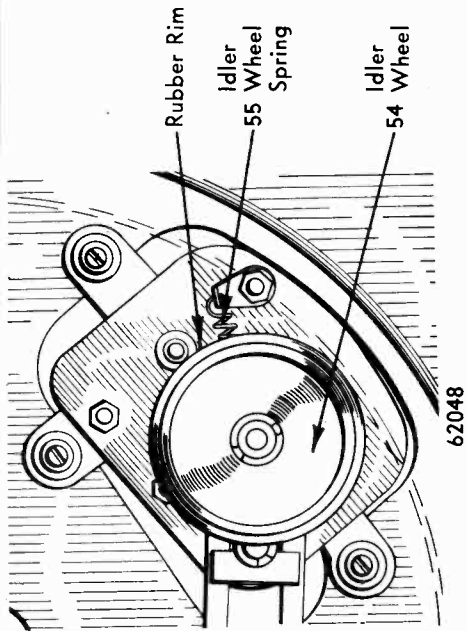

FIG. 27.
2. During playing cycle idler wheel slide should move freely and its spring tension must be positive so that idler wheel maintains constant contact with turntable rim and motor shaft. See fig. 27.
3. Idler wheel mounting and slide should move freely. Spring tension on slide must be maintained. Oil slide if necessary. (See fig. 27.)